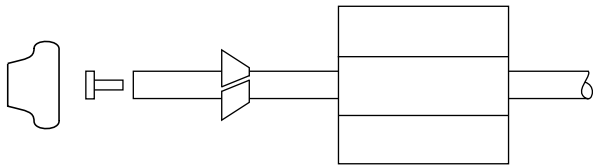

Figure 10
**NOTE:** Once the tubing has been pushed into the nut it cannot be pulled out. The nut will need to be removed. See Figure 10 for correct assembly.